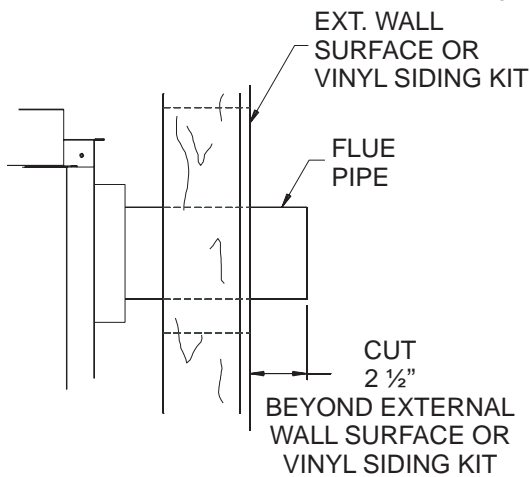
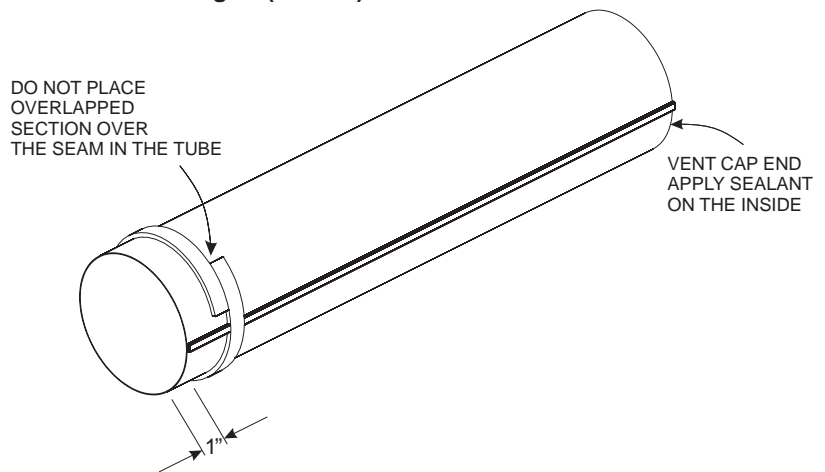

Figure 57
Figure 58
8. Attach the 4" (102mm) diameter flue outlet tube onto the rigid venting system or directly to fireplace. Ensure the 4" (102mm) diameter flue outlet tube is placed as far as possible onto the rigid venting system. Mark the 4" (102mm) diameter flue outlet tube 2 1/2" (64mm) beyond the vinyl siding kit or wall. See **Figure 57**. Remove the 4" (102mm) diameter flue outlet tube from rigid venting system. When installing directly to fireplace, tape gasket needs to be used.
10. From outside: Push the 6 5/8" (168mm) diameter inlet tube/ mounting plate onto end of rigid venting system to correct position. Fasten the outside mounting plate to the vinyl siding kit or wall with (4) 10 x 1 1/2" screws. (Ensure upward slope).
11. From inside: Attach the inlet tube to the collar on the back of the fireplace (or the rigid venting system) using (3) self tapping screws.
12. Seal the 4" (102mm) diameter flue outlet tube. Follow instructions and diagram (**Figure 58**).
14. Fasten vent cap end using (3) 10 x 1/2" screws to mounting plate.
If the air inlet and flue outlet tubes are to be connected directly to the unit (no rigid venting system is being used), then the gasket provided must be used to seal the 4" (102mm) flue outlet tube. Peel the paper off the self-adhesive gasket and then wrap it around the end of the tube (if tube was cut, it is recommended to use cut end) as shown in **Figure 58**. Pull the gasket tight at all times while wrapping it around tube. The gasket ends should align, to form a complete seal. The overlapped section should NOT come in contact with the seam in the tube. Apply high temperature sealant to the opposite end of the tube (on the inside of the tube). The end with the gasket will attach to the back of the unit. Continue with Step 13.